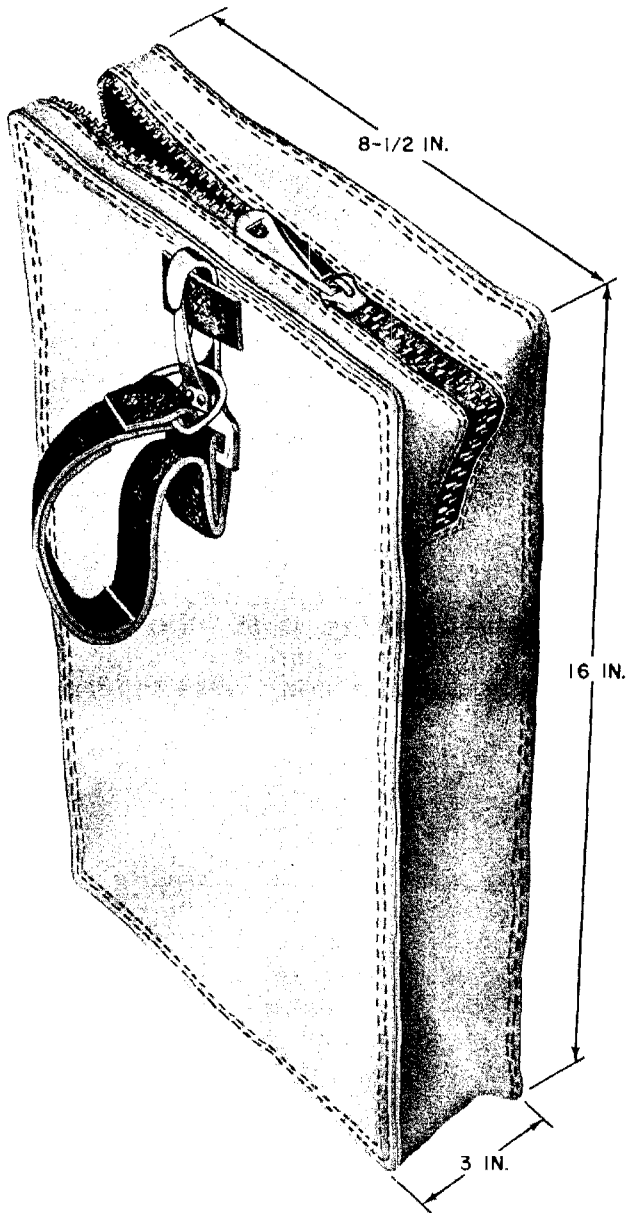

Fig. 4—B Glove Bag
5.02 The B Glove Bag, Fig. 4, is made of cotton duck with a liner of polyethylene. A zipper is provided for opening the top of the bag. A web strap, terminated in a snap hook and a Dee ring and reinforced with leather at the point of maximum wear, is provided for suspending the bag from the body belt.